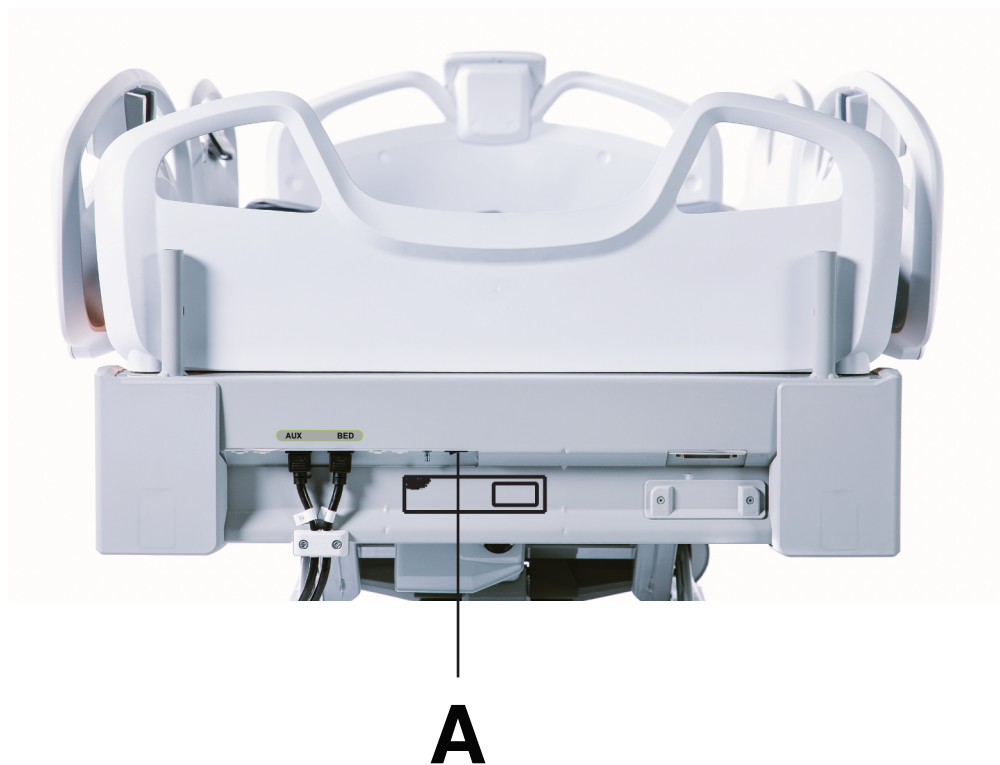

Figure 6 – Battery switch
2. Turn on the battery switch (A) at the head end of the product (Figure 6).